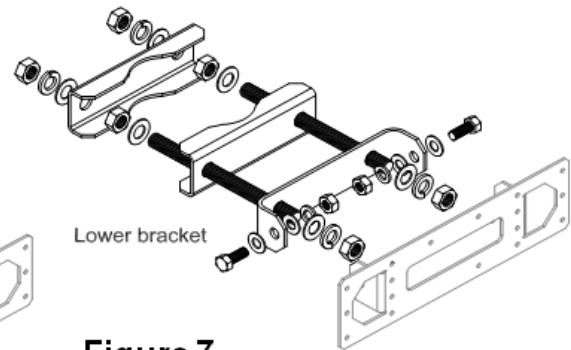

Figure 7.
Assemble both mounting kits as per Figures 7 and 8 of this document.
- Figure 7. Mechanically Adjustable Downtilt Top Bracket Exploded View**